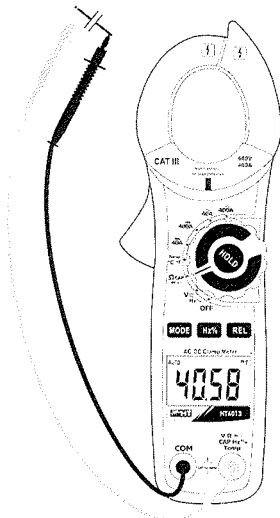

Fig. 6: Use of the clamp for capacitance measurement
4. Position the test leads in the desired points of the circuit to be measured (Fig. 6). The display shows the value of capacitance.